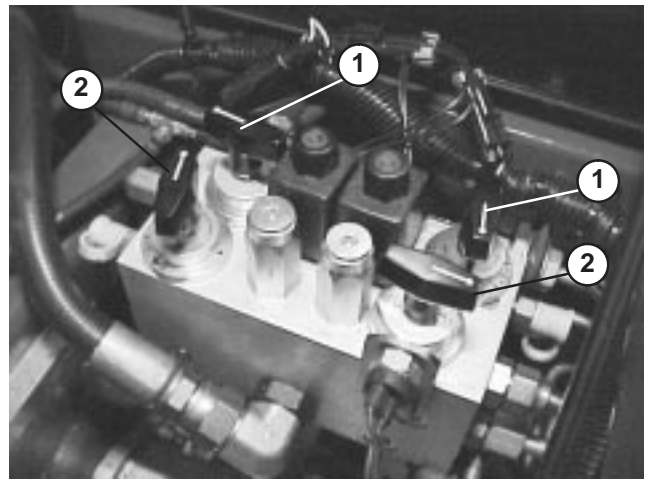

Figure 28
- To set reel speed, rotate knobs (Fig. 28) until indicator arrows are in line with the number designating desired setting.